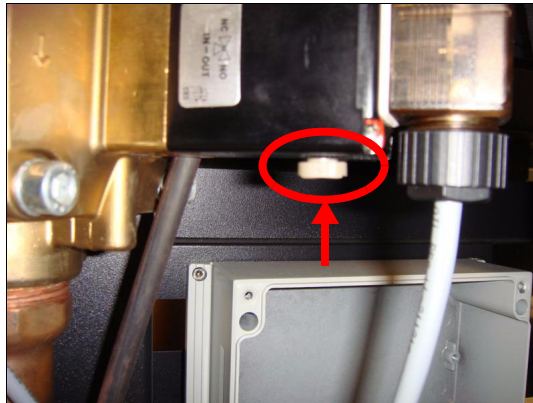

Figure 4-46 Solenoid valve in the "in" position⁷
8. To drain the supply side of the manifold, press the knob on the solenoid valve into the up position and turn it a quarter turn. This allows air to pass through the solenoid valve in the opposite direction from the normal coolant flow path. See Figure 4-46.